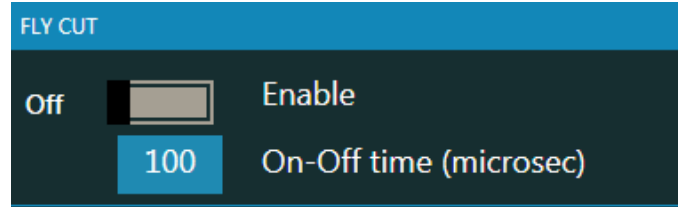

Figure 39
- **FLY CUT:** On the top of the box the regarding function can be enabled or disabled by operator using the sliding menu (If the menu as **Figure 39** the function will be disabled).
This function is used to cut faster than normal cutting same type of contours. In this function the cutting head is not raised up for retracting. When this function enabled the value into the “On/Off Time (microsecond)” will be taken into account by system. This value adjusts how many micro seconds the laser beam will be “ON” and “OFF”. For example the laser beam will be on for a 0,5 millisecc and next 0,5 millisecc the laser beam will be off if On/Off time adjusted as shown **Figure 39**.